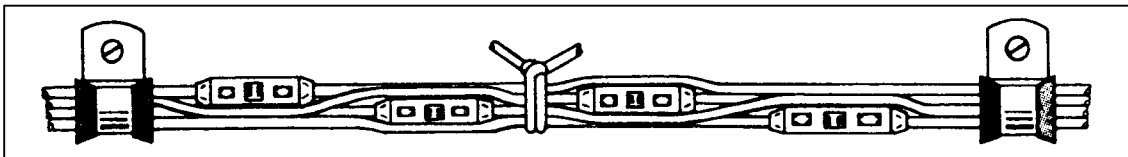

FIGURE 11-18. Staggered splices in wire bundle.
d. Splices in bundles must be staggered so as to minimize any increase in the size of the bundle, preventing the bundle from fitting into its designated space, or cause congestion that will adversely affect maintenance. (See figure 11-18.)